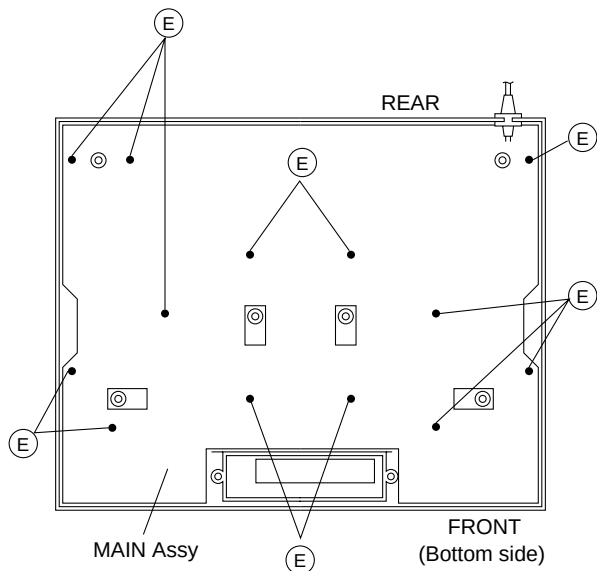

Fig. 3
■ REMIX CONTROL MIXER [MX-R9 (S)]
1. MAIN ASSY (Fig.1 to Fig.3)
- (5) Remove 13 screws (● mark) (E) which fixes the MAIN ASSY. (Fig.3).
- (6) Remove the MAIN ASSY.